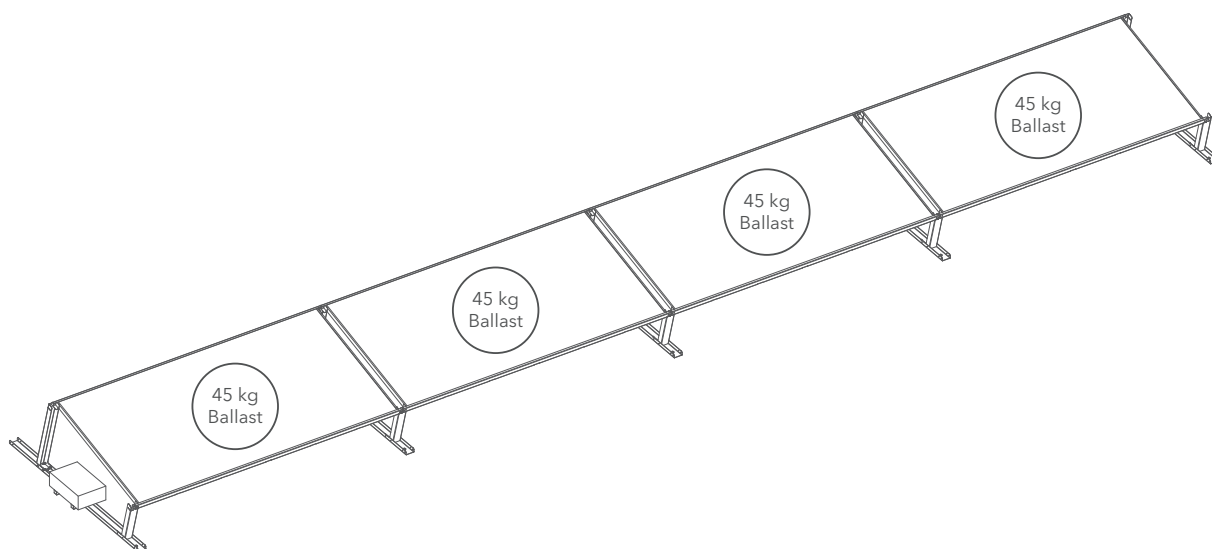

Fig. 8 Distribution of the ballast to the individual rows of photovoltaic modules
- 8 For a series of photovoltaic panels, this is 45 kg of ballast per panel (Fig. 8).